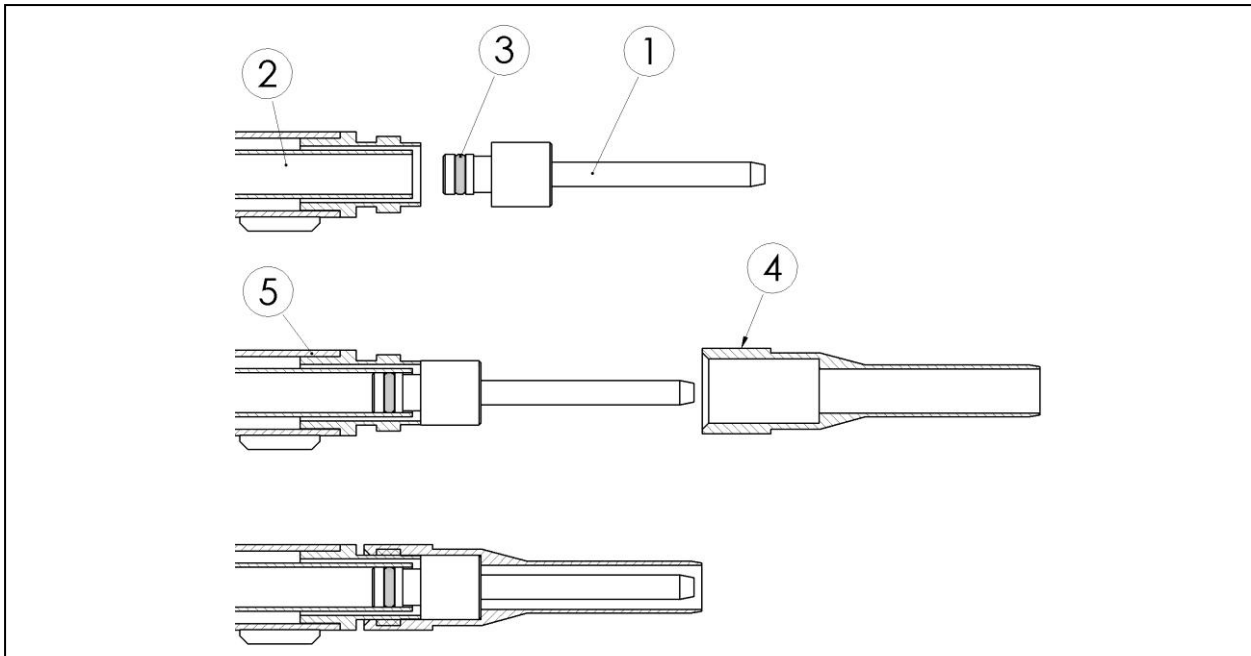

Figure 4
- ◆ Insert the oxygen injector (1) in the central oxygen lance (2) as described on the figure 4.
- **Check that the « viton » joint (3) is correctly positioned in the injector groove.**
- ◆ Screw the fuel gas injector (4) on the fuel gas lance (5) as described on the figure 4.